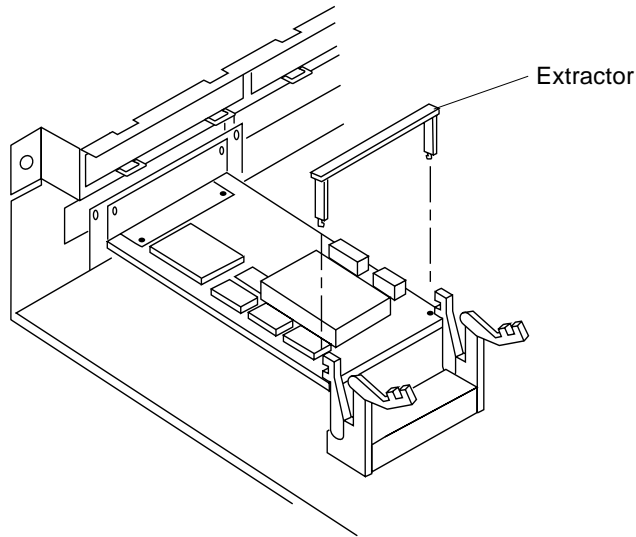
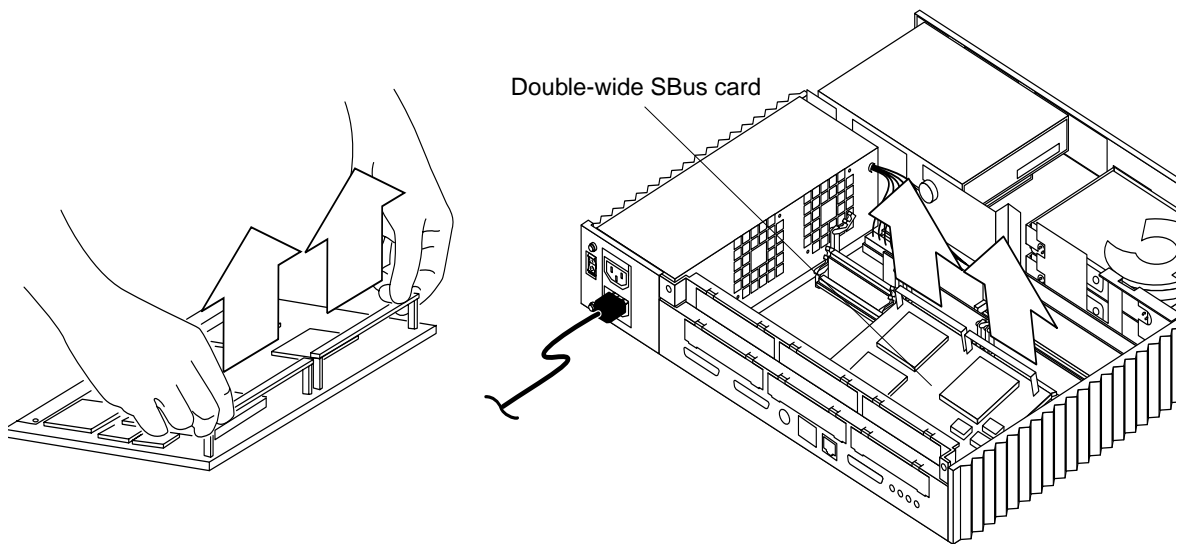

FIGURE 11-13 Installing the Card Extractor
FIGURE 11-14 Removing a Double-Wide SBus Card
5. Insert the extractor into the SBus card (FIGURE 11-13) or insert two extractors into double-wide Sbus card (FIGURE 11-14).